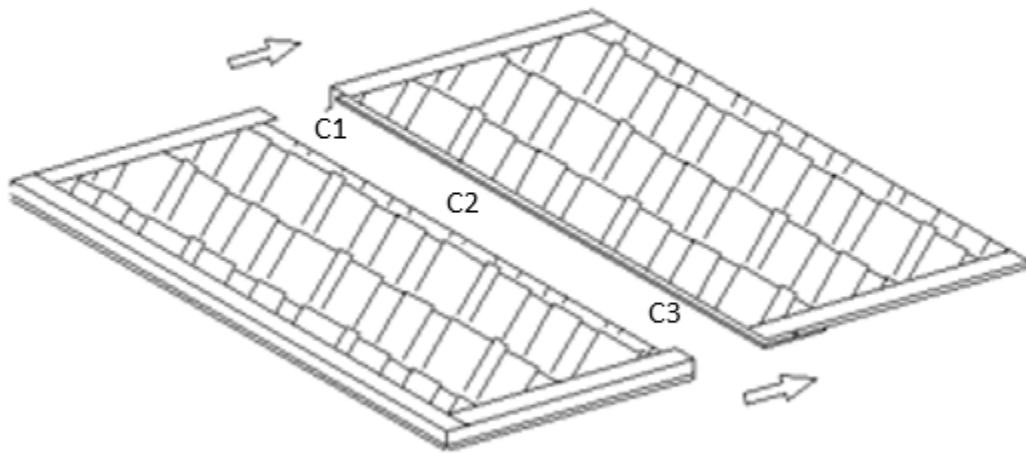

Figure 1.5
Step 7.) Using two people for this step, join both halves of the roof panel by sliding each half together with the $\frac{1}{8}$ " plywood over lapping on the inside and the shingles overlapping on the outside. Use caution and work slowly so as to not damage the shingles in the process. It may require the use of a rubber mallet to get both halves to fully seat in place. Once each half is fully seated, use the $\frac{1}{2}$ " pan head screws to secure the roof assembly together in locations (C1-C3) on the drip edge as indicated by the arrows in Figure 1.5